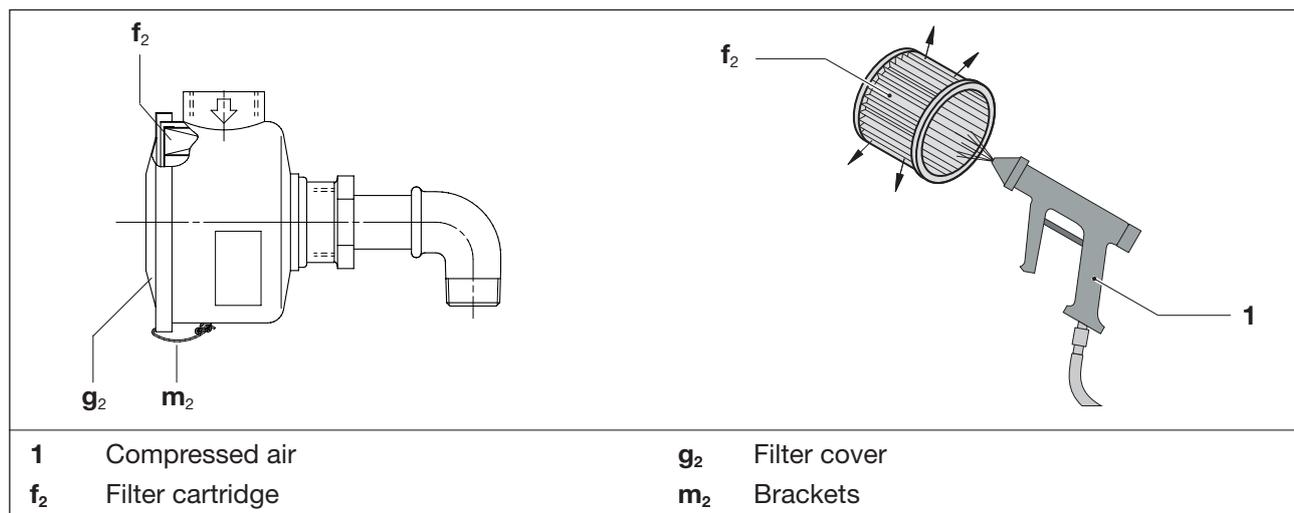

Fig. 10 Intake filter
- Release the brackets (Fig. 10/m2) on the filter cover (Fig. 10/g2).
- Remove the filter cartridge (Fig. 10/f2) from the filter and clean or replace.
d) Re-insert the filter cartridge in the filter and fasten the filter cover (Fig. 10/g2) with the brackets (Fig. 10/m2).